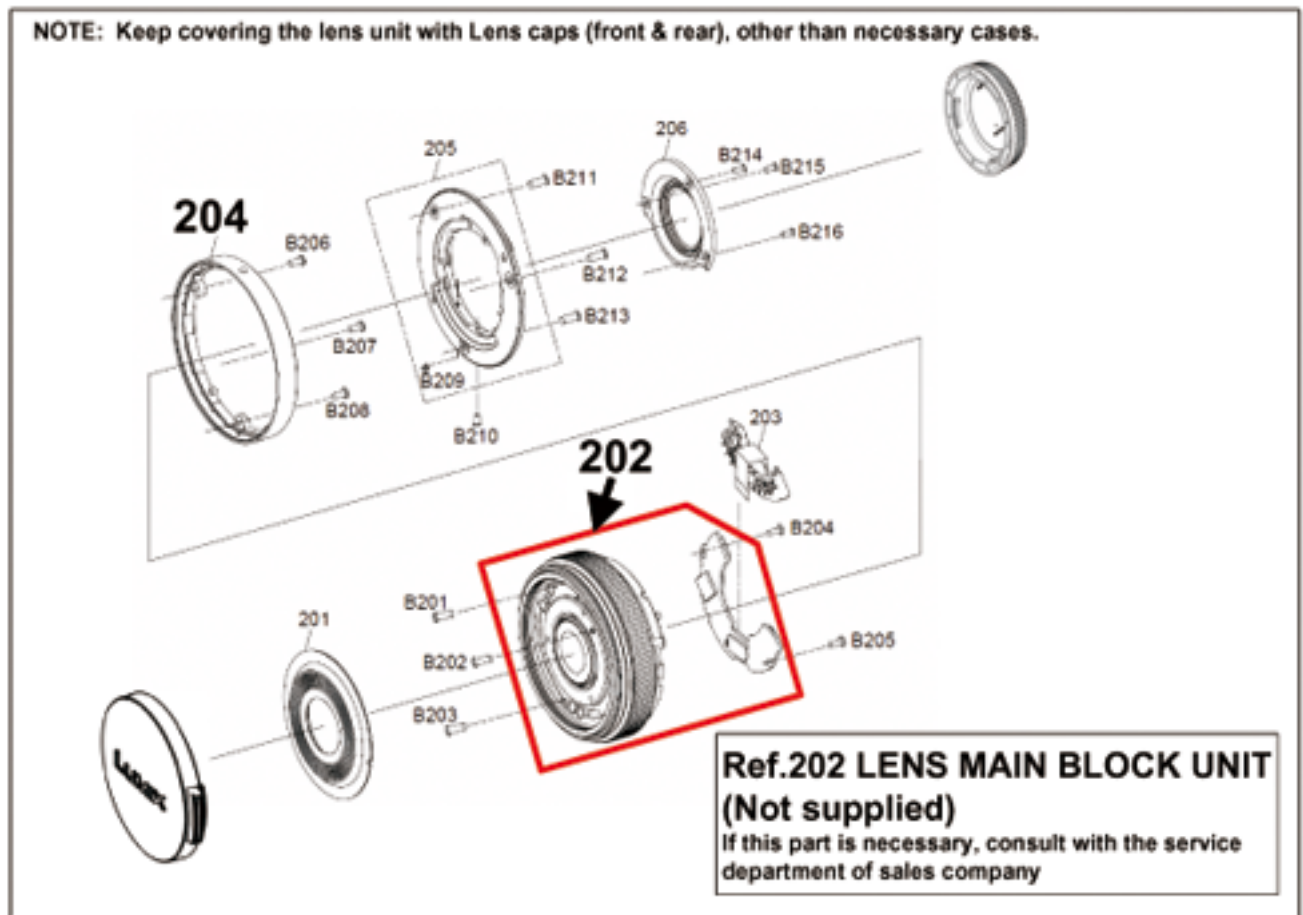

Fig. S1
4. No adjustment is required when replacing the part mentioned on Fig.S1. But, when tighten the concerned screws, apply proper torque mentioned on "4 Disassemble / Assemble section".